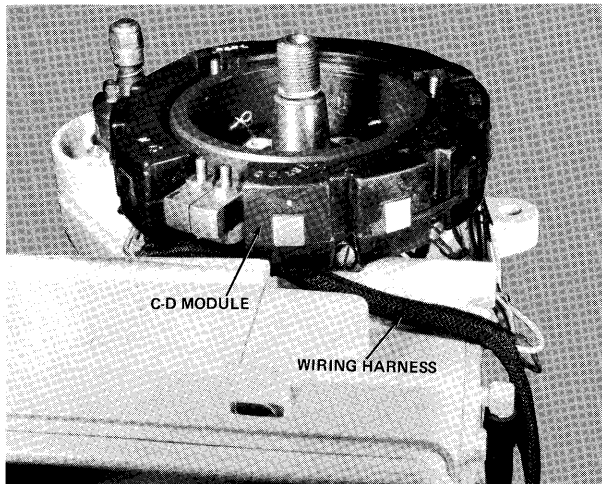

Figure 28 - Routing of Wiring Harness
It will be necessary to remove C-D module to allow clearance for removal of wiring harness. See figure 28.
- E. Route wiring harness up and over cylinder as shown in figure 28. At first break out from terminal block route the orange/brown stripe and brown wires through rear hole (port side) in bearing cage, connect orange/brown to No. 3 trigger coil rear terminal — connect brown wire to No. 1 trigger coil terminal port side. Route the green and white/blue stripe wire to the front hole (port side) in bearing cage — connect green wire to forward terminal of No. 3 trigger coil — connect white/blue stripe wire to port side terminal, No. 2 trigger coil. From 2nd breakout in wiring harness from terminal block route yellow/black and red/black stripe wire to front hole in bearing cage (starboard side). Connect red/black stripe wire to No. 2 trigger coil starboard side terminal, connect yellow/black stripe wire to front terminal of trigger coil No. 4. The two (2) short double jumper wires, white/blue stripe and green wires go in rear hole of bearing cage (starboard), green wires go to rear terminal of trigger No. 4 — white/blue stripe wire goes to starboard side of trigger coil No. 4.